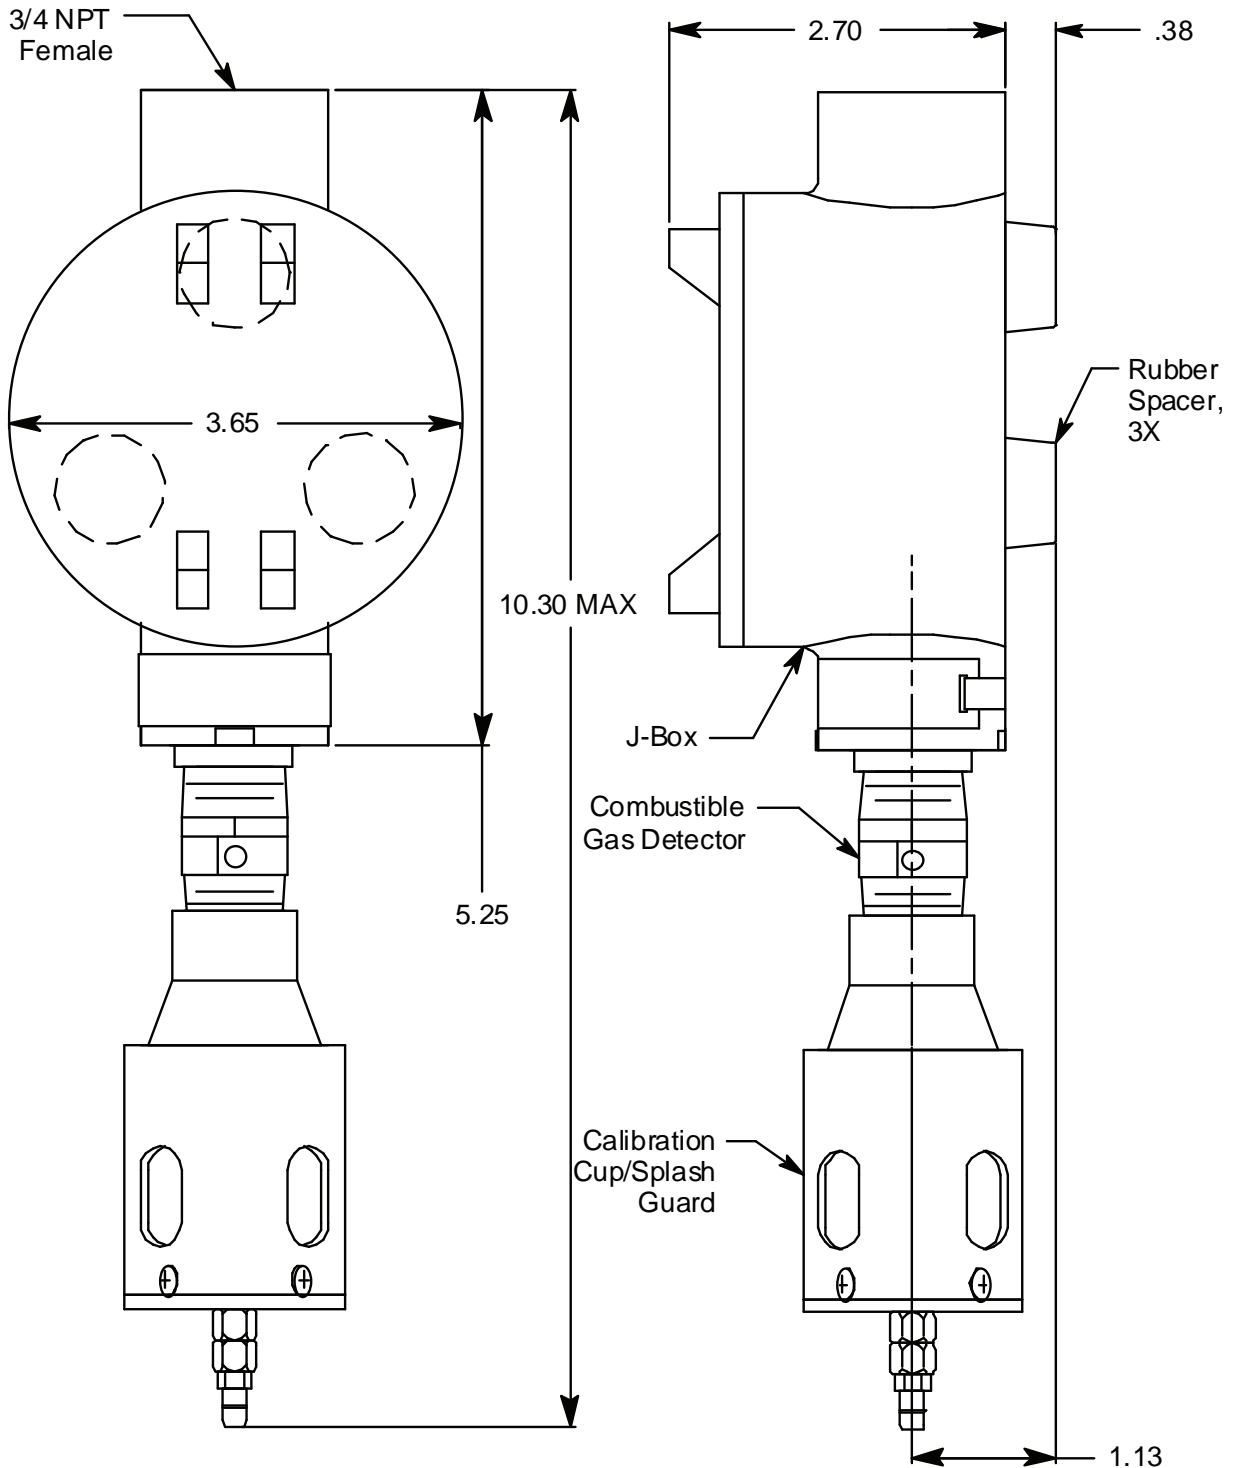

Figure 2: Mounting the Combustible Gas Transmitter
2. At the monitoring site you select, hang or mount the detector junction box with the detector facing down (see Figure 2).